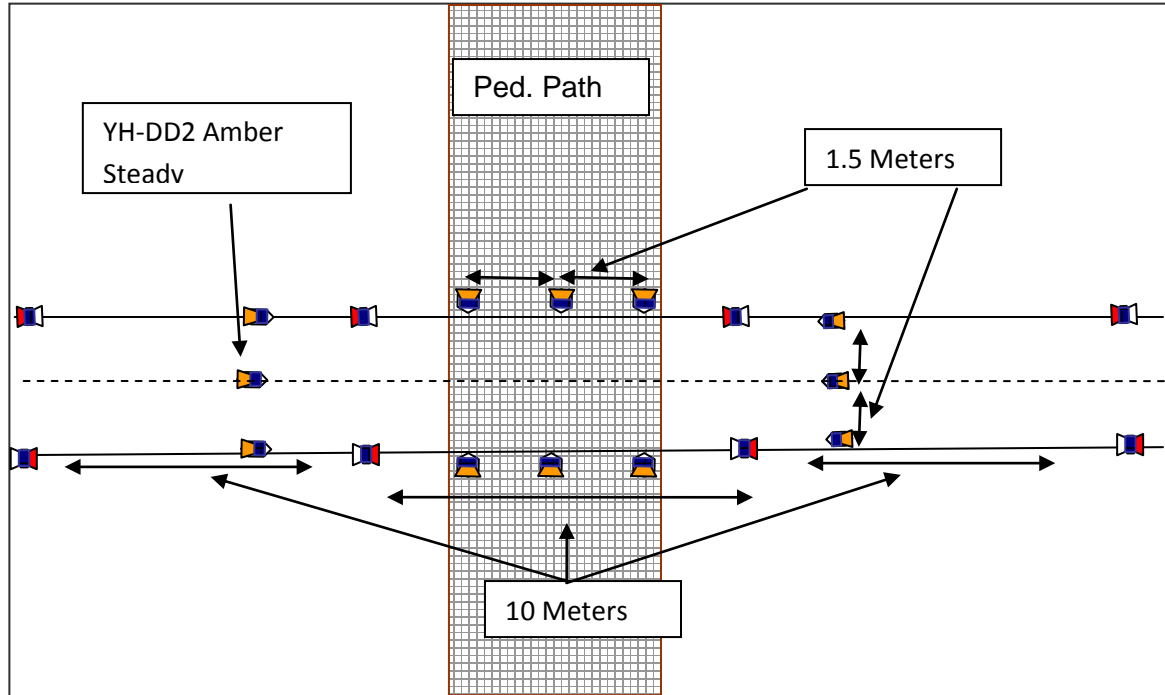

Fig. 14.
2. Where bicycle paths either intersect with other roads tracks or paths, the S1 R/W S Amber will be placed in threes across both sides of the intersection of the approach bicycle path. (See Fig 14.)